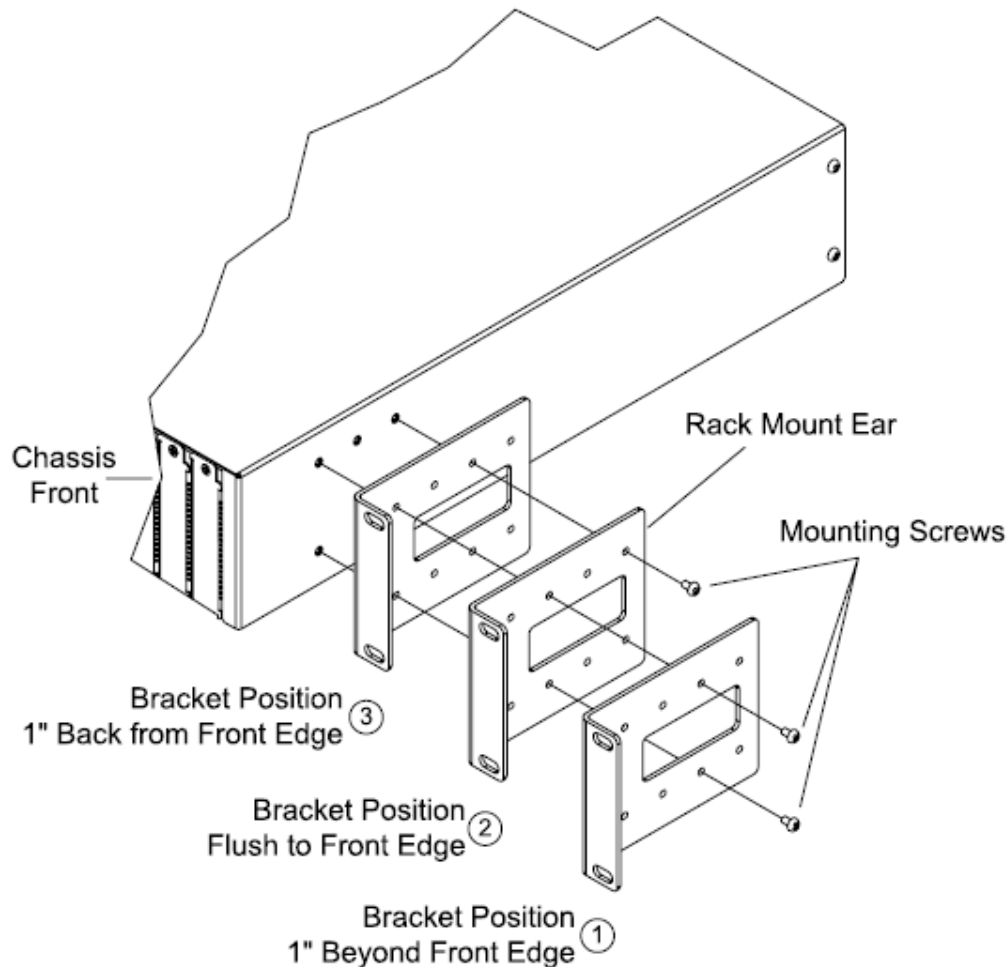

Figure 7: ION219-x Rack Mount Ear Installation
Note: Installation rack-mount-ear mounting screws (cover-to-frame screws, see Figure 7 below) are provided. Rack mount “screws” and “clip nuts” are NOT provided.
2. Using a Phillips screwdriver, remove the six (6) cover-to-frame screws (three on each side of the chassis). See Figure 7 below.
3. Align the mounting bracket in the selected installation position, as shown in Figure 7 below.
4. Using a Phillips screwdriver, install the three (3) screws to mount the rack mount ear to the side of the chassis. See Figure 7 above.